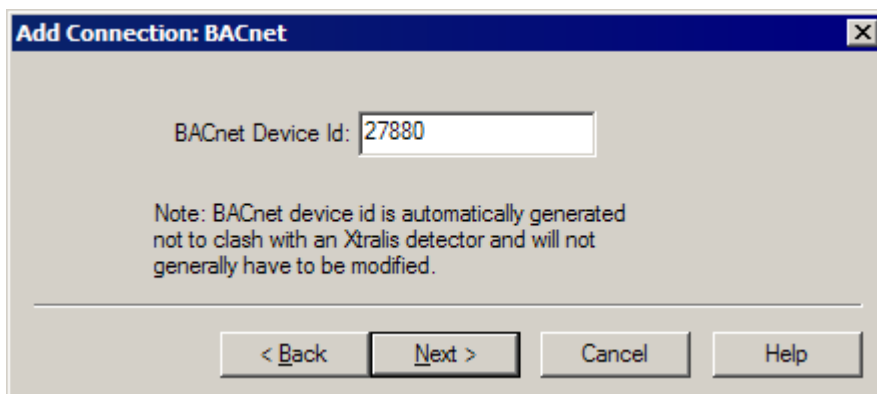

Figure 5-5: Enter a BACnet ID
6. Accept the pre-generated BACnet Device ID number, then select Next (Figure 5-5).